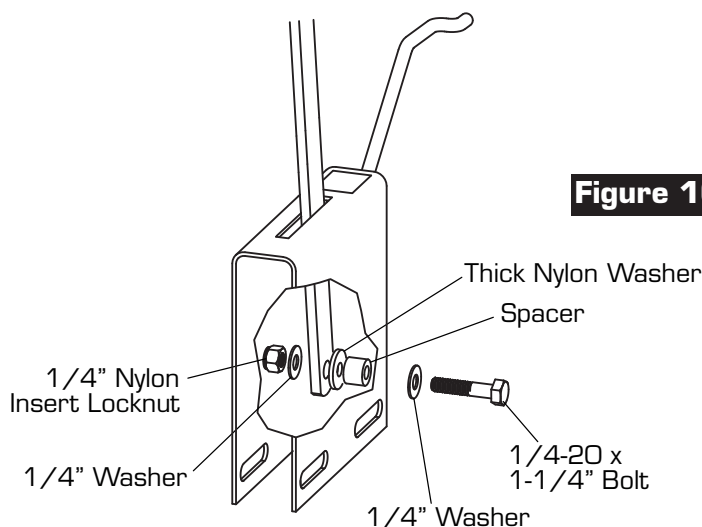

Figure 10
14. Install 1/4-20 x 1-1/4" Bolt and 1/4" Washer through the U shaped bracket, Figure 10.